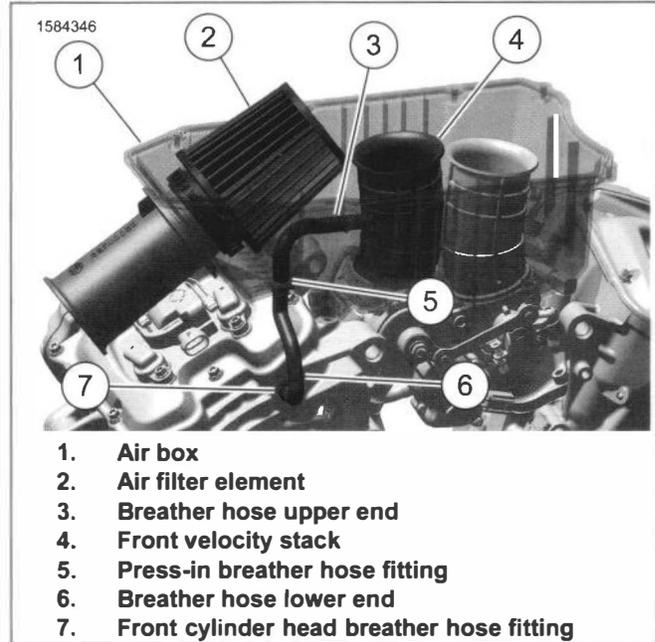

Figure 6-7. Breather Hose Assembly
1. See Figure 6-7. Remove breather hose lower end (6) from fitting (7) in front cylinder head.
2. Remove breather hose upper end (3) from fitting on front velocity stack (4).
3. Pull breather hose assembly and press-in fitting (5) from opening in air box (1).
1. See Figure 6-7. Insert breather hose lower end (6) through opening in air box (1).
2. Lubricate press-in breather hose fitting (5) with equal mix of isopropyl alcohol and water.
4. Insert breather hose upper end (3) onto fitting on front velocity stack (4).
5. Insert breather hose lower end (6) onto fitting (7) in front cylinder head.